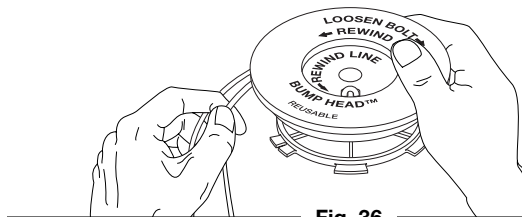

Fig. 36
7. Wind the lines in tight even layers, onto the reel (Fig. 36). Wind the line in the direction indicated on the inner reel. Place your index finger between the two lines to stop the lines from overlapping. Do not overlap the ends of the line. Proceed to step 11.